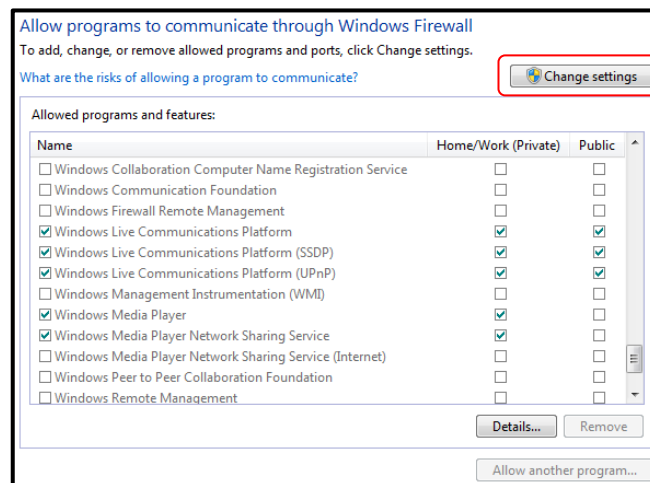

Figure 4 - Enabling firewall settings changes
3. Click the “Change settings” button. Refer to Figure 4.